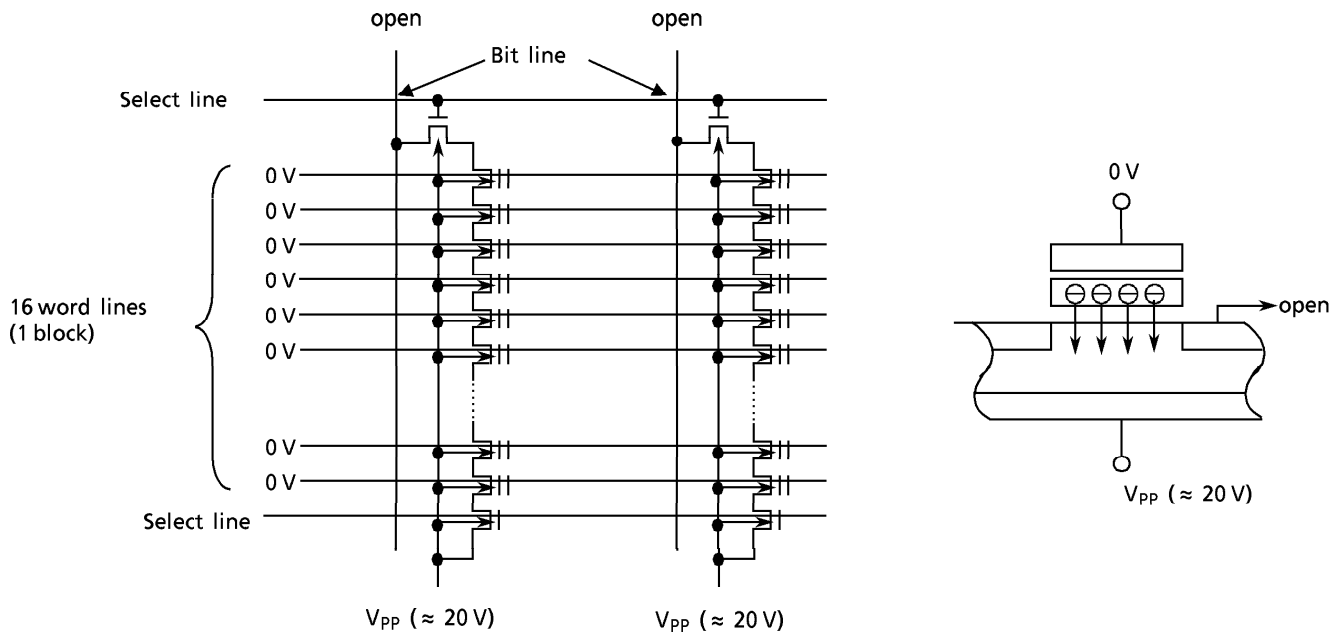

Figure 18. TC5816 Erase Device Physics
- (1) A high level is applied to Select line 1 and a low level is applied to Select line 2 so that the device is connected to the Bit line and disconnected from the ground line.
- (2) V_{pp} ($\approx 20\text{ V}$) is applied to the selected word line and an inhibit voltage of V_{PI} ($\approx 10\text{ V}$) is applied to the unselected word lines.
- (3) 0 volts is applied to the bit line tied to cell transistor TR1 and the inhibit voltage V_{DPI} ($\approx 10\text{ V}$) is applied to the bit line tied to TR2.
- (4) V_{pp} is applied between the control gate and the channel in TR1, as shown in Figure 18, which causes electrons to be injected from the channel to the floating gate by a tunneling mechanism.
- (5) The injected electrons are captured in the floating gate surrounded by an oxide layer and will remain, even after power is cut off, until they are removed by an Erase operation.
- (6) Although 20 volts is applied to the control gate of TR2, the voltage difference between the control gate and the channel is only 10 V because the voltage of the channel is 10 V. Therefore, tunneling does not take place (i.e. the electron is not injected into the floating gate.)
- (7) Tunneling does not take place in the unselected pages because of the 10 V (V_{PI}) applied to the unselected word lines which makes the voltage difference between the control gate and channel only 10 volts.
Figure 18 shows the NAND memory cell level details of the Erase mechanism. The Erase operation is used to turn the “0” (programmed) cells back to “1” in a block. The captured electrons are pulled out from the floating gate to the substrate by a tunneling mechanism. 0 volts is applied to the control gate and V_{pp} ($\approx 20\text{ V}$) is applied to the substrate so that a 20-volt potential is created and the electrons in the floating gate are pulled out by the tunneling mechanism.